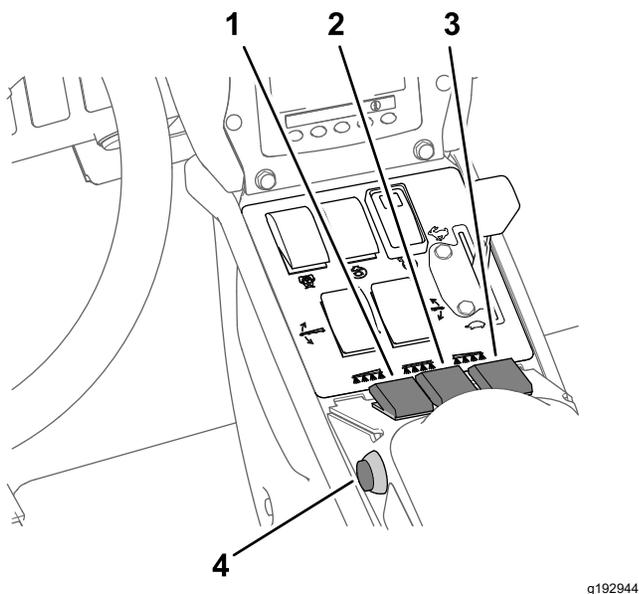

Figure 41
7. Set the spray section switch(es) to the ON position (Figure 41).
10. Drive at the desired speed and then set the master section switch to the ON position to begin spraying (Figure 41).
3. Set the master section switch to the OFF position; refer to Figure 41 in Spraying in the Application Rate Mode \(page 35\).
7. Set the individual section switches, as needed, to the ON position; refer to Figure 41 in Spraying in the Application Rate Mode \(page 35\).
9. Drive at the desired speed and then set the master section switch to the ON position to begin spraying; refer to Figure 41 in Spraying in the Application Rate Mode \(page 35\).